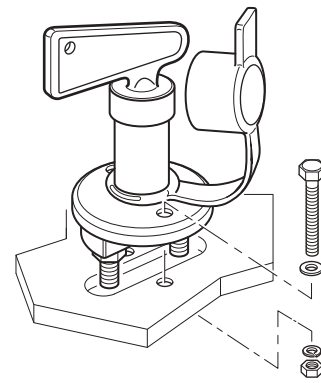

Fig. 44
- ▶ Install the battery cut-off switch at a suitable location inside the vehicle and fix in place using the screws supplied (Fig. 44).